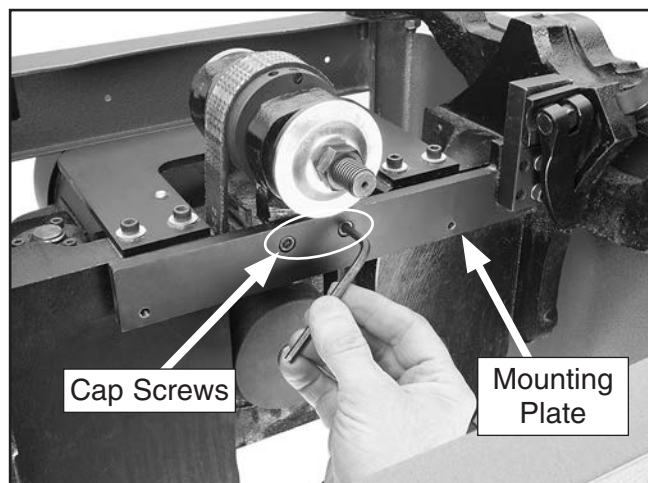

Figure 136. Removing mounting plate.
8. Remove cap screws that secure mounting plate shown in **Figure 136**, then remove plate.